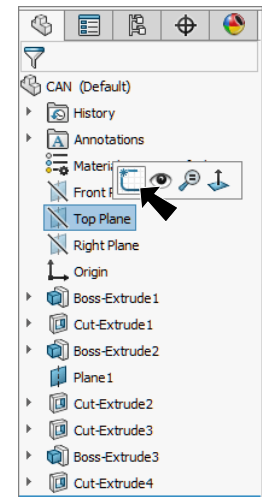
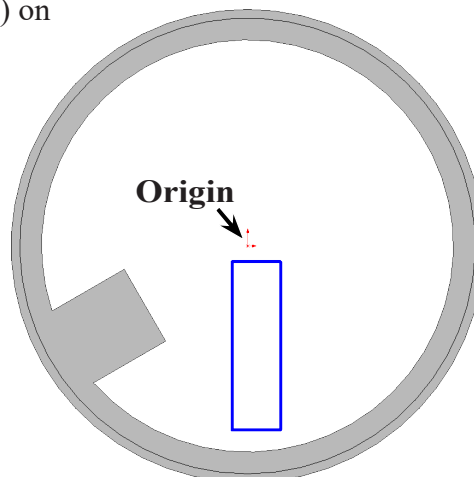

Fig. 67
Fig. 68
Step 2. Click **Top Plane**  in the Feature Manager and click **Sketch**  on the context toolbar, **Fig. 67**.
Step 4. Click **Corner Rectangle**  (S) on the Sketch toolbar.
Step 5. Sketch a rectangle below the **Origin**  , **Fig. 68**.